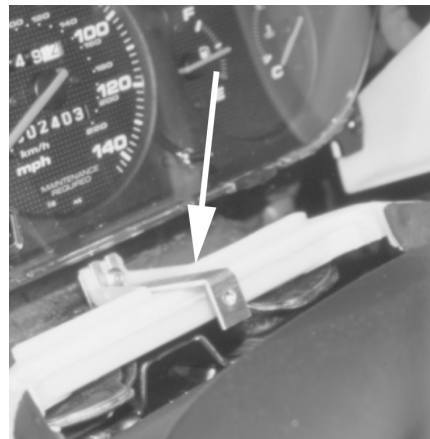
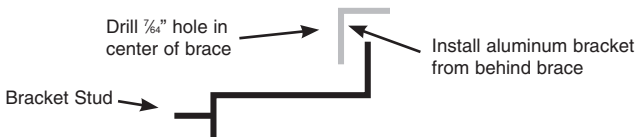

Fig. 2 - Bracket installed on Honda Civic
Fig. 1 - Bracket installation for Acura Integra
5. Attach bottom of bezel to aluminum bracket using supplied hardware. (See figure 1 for Acura, or figure 2 for Honda)